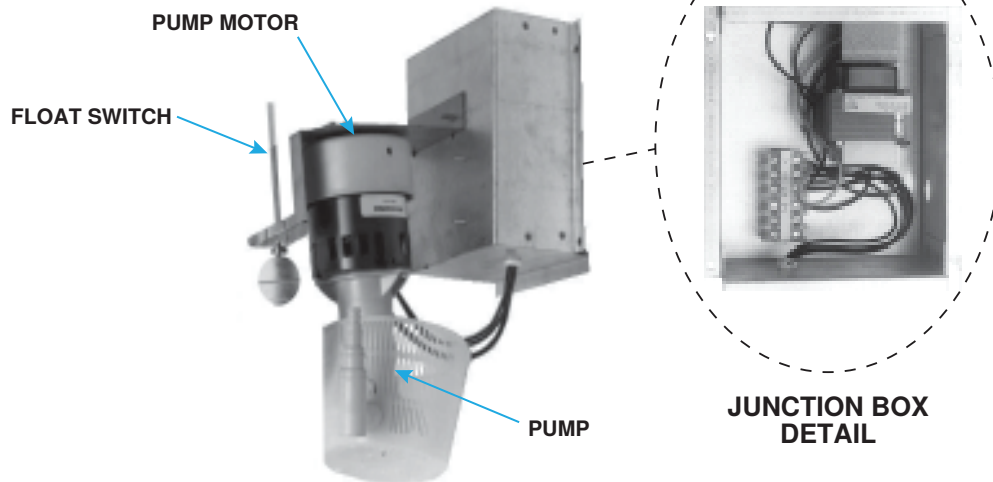

Figure 15. Water Pump
2. Remove junction box door and disconnect two power supply wires from terminal block inside junction box (see Figure 15).
4. Remove four sheet metal screws that secure junction box to cooling module and remove junction box/pump/float switch assembly (see Figure 15).